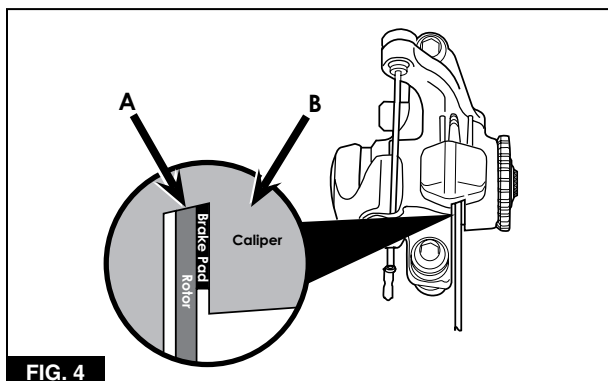

FIG. 4
10. Turn the inboard pad adjuster (C, **Figure 3**) clockwise (inward toward the caliper) until the brake disc (A, **Figure 4**) is centered within the caliper body (B). The caliper is properly adjusted if the space on each side of the brake disc is the same.